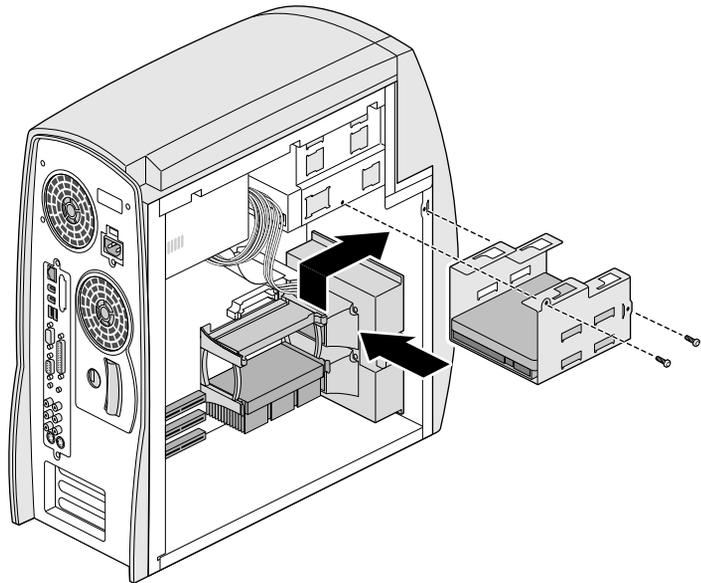

Figure 4-18 Installing the Internal Hard Drive Bracket
8. Install the bracket in the drive slot, as shown in Figure 4-18.